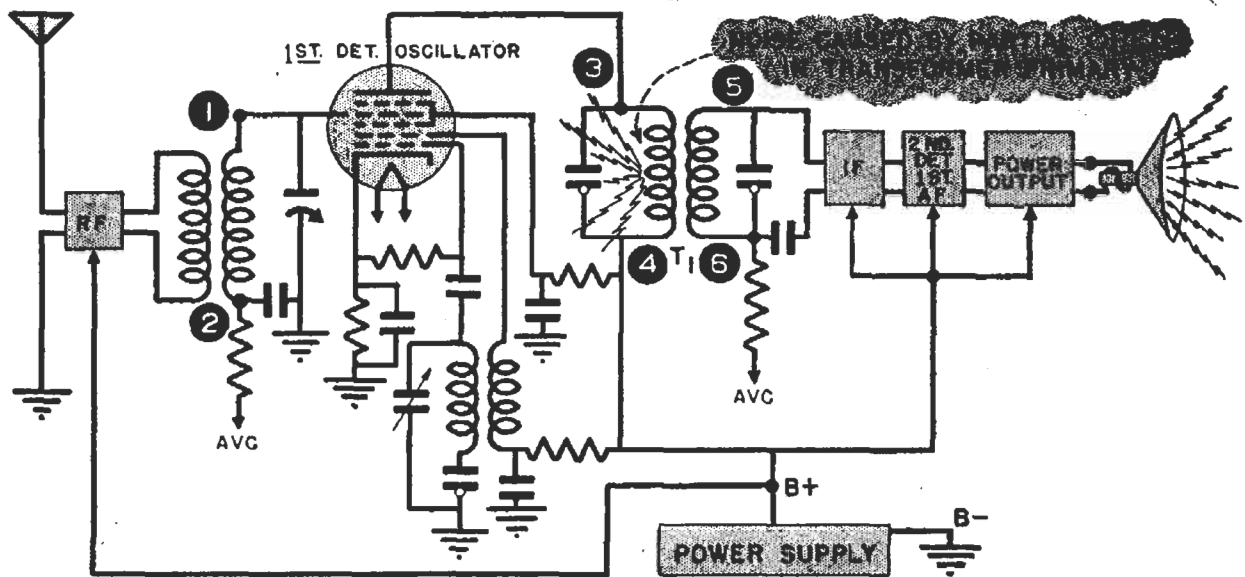

FIG. 5. A typical converter stage, with noise produced by a partial open in the i.f. transformer primary.
Examples of Blocking. Suppose you have the receiver shown in Fig. 5, in which a partial open in the primary of the first i.f. transformer T_1 causes a noise-producing variation of the mixer plate current, and produces a rapid machine-gun-like crackling in the speaker. Here's how you could localize the trouble:
► This shorting procedure can be applied to the r.f. circuits shown in Fig. 5. Here, if the i.f. transformer were faulty, shorting between terminals 5 and 6 would eliminate the noise, but shorting between terminals 1 and 2